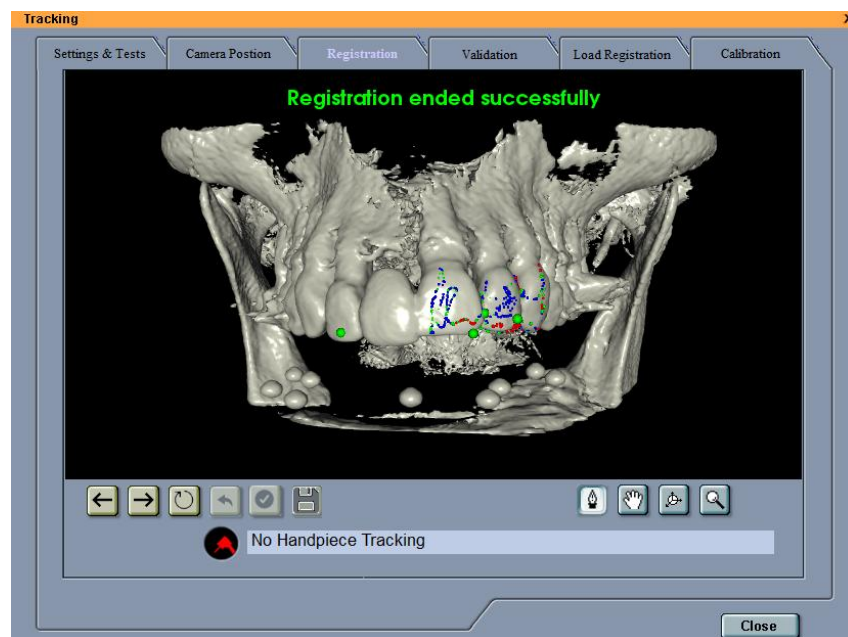
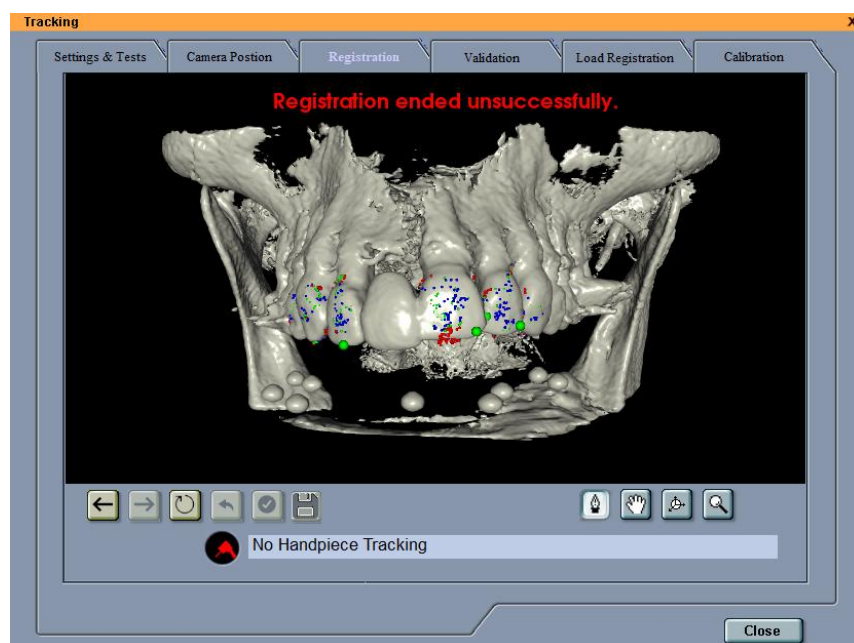
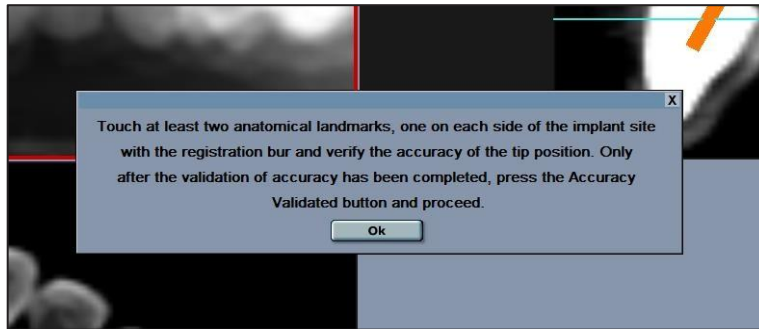
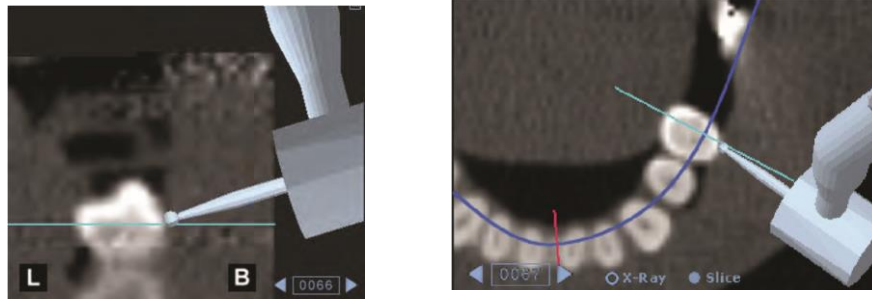

Figure 96: Registration Ended Successfully
Figure 97: Registration Ended Unsuccessfully
Figure 98: Accuracy validation window
**Figure 99: Accuracy Check on Buccal Surface of Adjacent Tooth
3. Position the tip of the bur (not its side) on the buccal surface of a tooth, which is adjacent to the implantation area. Then, move it gently and continuously over the buccal, occlusal and lingual surfaces of the tooth, while following the handpiece movements on the Cross-Section View and Axial View. See, **Figure 96: Accuracy Check on Buccal Surface of Adjacent Tooth**, **Figure 97: Accuracy Check on Occlusal Surface of Adjacent Tooth**, and **Figure 98: Accuracy Check on Lingual Surface of Adjacent Tooth** **Figure 99: Accuracy Check on Mesial & Distal**, on page 144).